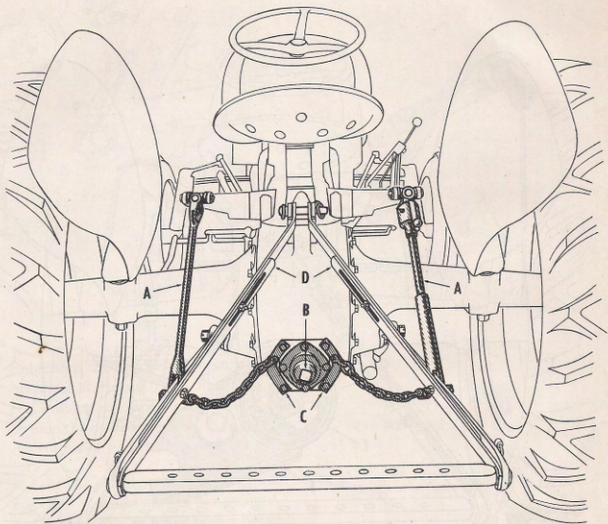

Fig. 21
3. Remove both leveling rods, A and A, Fig. 21.
4. Install stay assemblies D, Fig. 21.